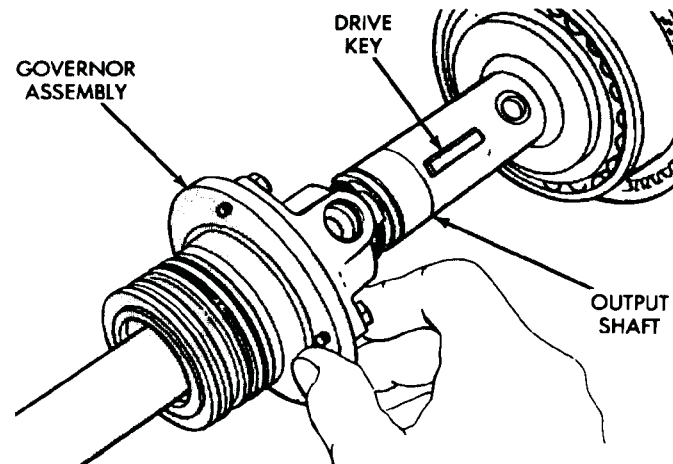

Fig. 65 Governor Assembly Installation
(3) Install governor body and drive assembly on output shaft as follows (Fig. 65).